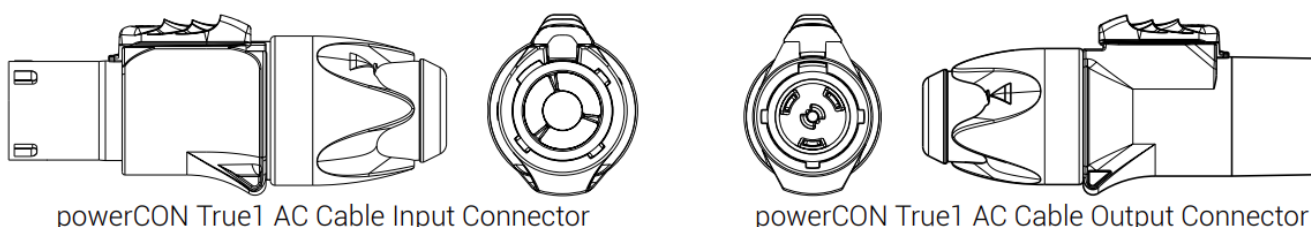

Fig. 1
- When wiring an AC cable for use with this product in a single-line system, use the wiring scheme described below in Table 2 and illustrated with Fig. 1. All work must be completed by a qualified technician.